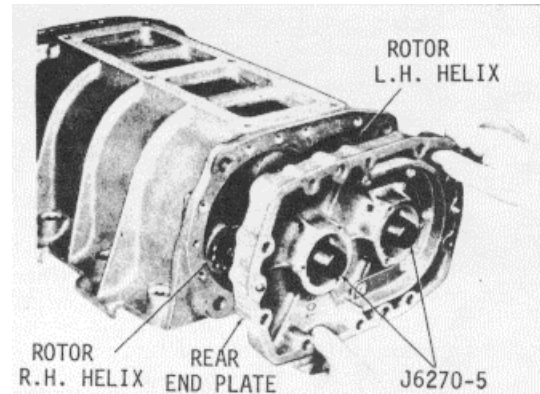

Fig. 15
- (e) Place the rear end plate over the oil seal pilots (Fig. 15) and start the dowel pins straight into the dowel pin holes in the housing. Push or tap the end plate against the housing.